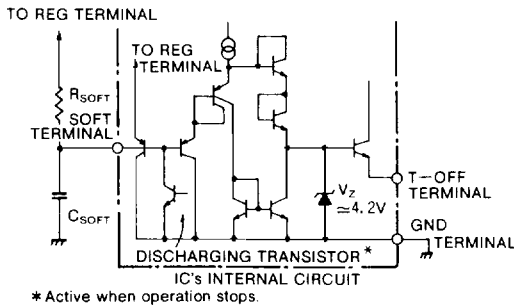

Fig.6 Circuit diagram of SOFT terminal section and T-OFF terminal section
- ① It is ideal for primary control as IC driving current is supplied from the third winding of the main transformer at the start-up because constant ON duration is obtained from start-up.
- ② It is possible to get a wide dynamic range for ON/OFF ratio by pulse-by-pulse current limit circuit.
- ③ The response characteristics at power-on is not affected by input voltage as the pulse-by-pulse limit current value is not affected by the input voltage.
Fig. 6 shows the circuit diagram of the soft start. If SOFT terminal voltage is low, T-OFF terminal voltage becomes low and  $V_{T-OFF}$  in equations (3) and (4) become low.